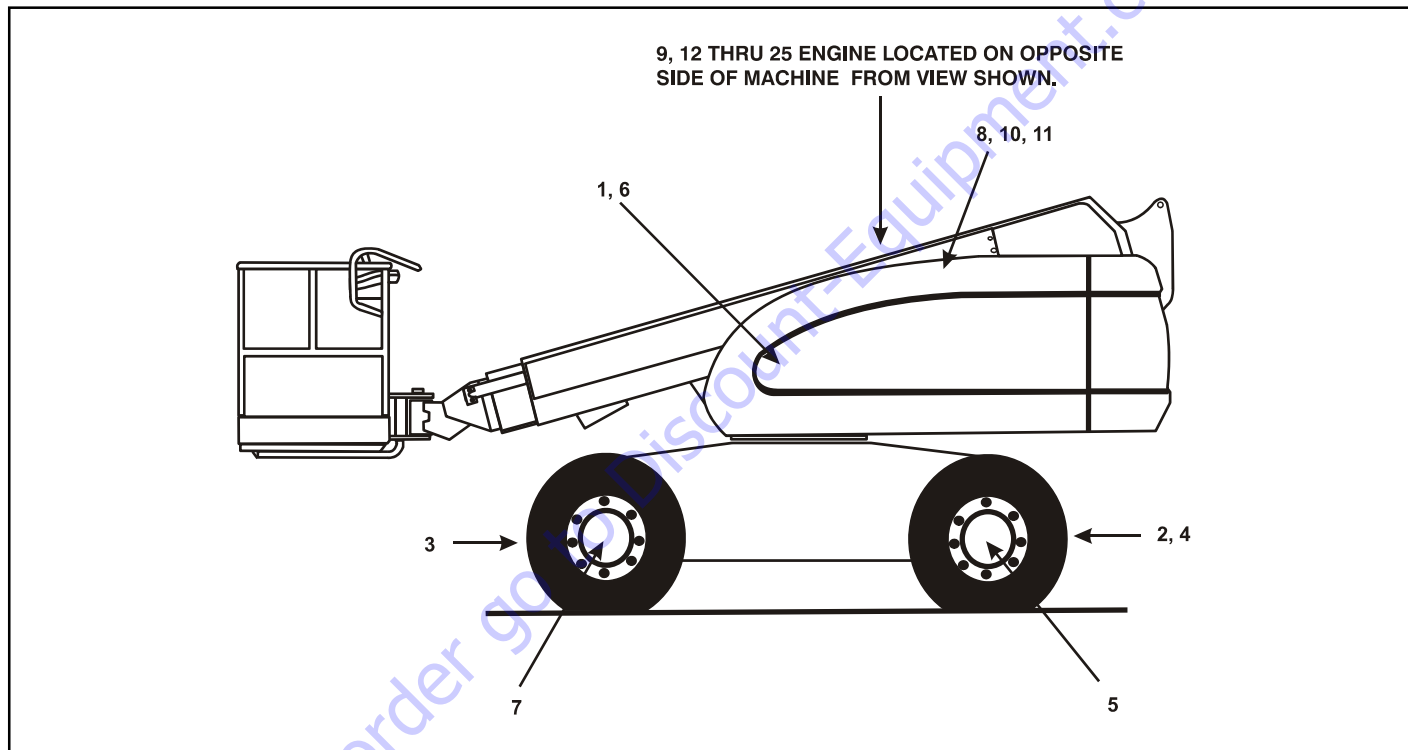

Figure 6-10. Operator Maintenance & Lubrication Diagram
**NOTE:** The following numbers correspond to those in Figure 6-10., Operator Maintenance & Lubrication Diagram.